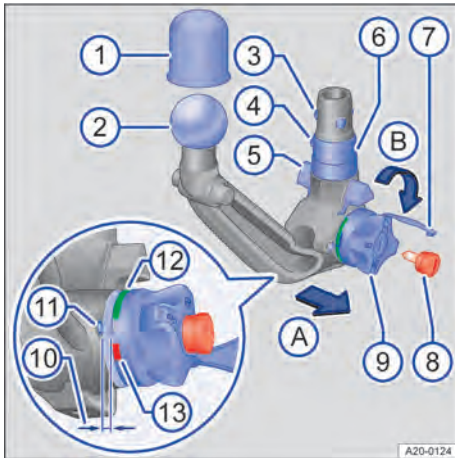

Fig. 159 Overview: removable ball coupling.
4. Remove the lock cap → Fig. 159 ⑦ from the lock on the handwheel.
5. Insert the key → Fig. 159 ⑧ into the lock and turn it anti-clockwise.
6. Hold the ball coupling → Fig. 159 ② tightly in one hand → ⚠.
7. Use your other hand to pull out the handwheel → Fig. 159 ⑨ in the direction of arrow A and hold it in this position.
8. Turn the handwheel → Fig. 159 ⑨ as far as it will go in the direction of the arrow B.
9. Hold the handwheel → Fig. 159 ⑨ in this position and guide the ball coupling ② downwards out of the mount. The ball coupling engages and is pre-tensioned.
2. Use your other hand to turn the handwheel → Fig. 159 ⑨ as far as it will go in the direction of the arrow B.
3. Press in the ball → Fig. 159 ④.
4. Turn the handwheel back → Fig. 159 ⑨ anti-clockwise.
5. Release the ball → Fig. 159 ④. The handwheel no longer protrudes from the ball coupling. The ball coupling is now slackened.
6. Turn the key → Fig. 159 ⑧ clockwise and remove. Store the key in the stowage box.
7. Close the lock cap → Fig. 159 ⑦.